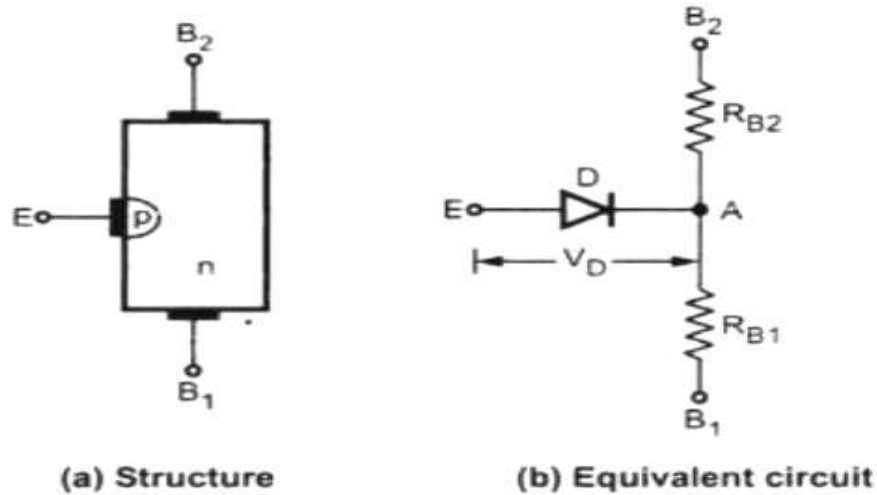

Fig. 5.30 Equivalent Circuit of UJT
- The Fig. 5.30 (a) shows the basic structure of UJT while the Fig. 5.30 (b) shows the equivalent circuit of UJT.